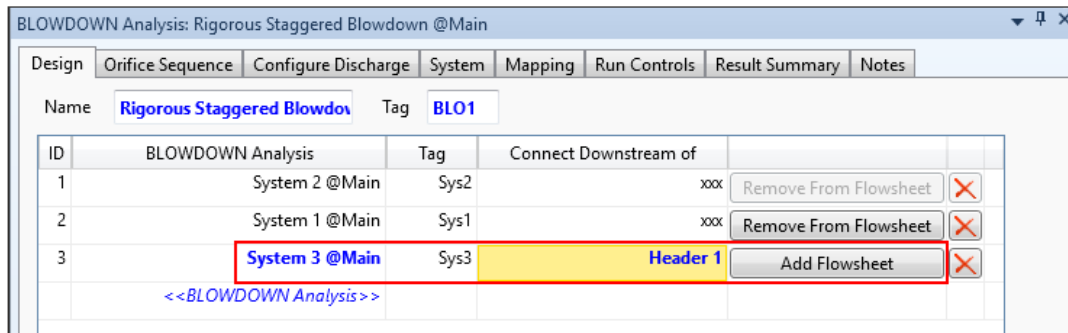

Figure 11:
14. For **System 3 @Main**, select **Header 1** as the downstream connection. Click the **Add Flowsheet** button and observe the changes in the flowsheet (*Figure 11*).